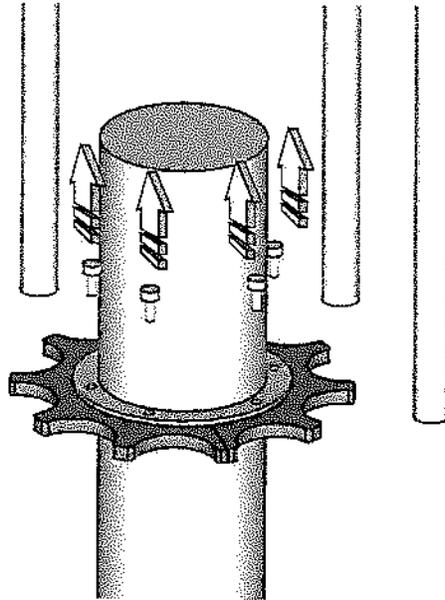

fig.32
- Loosen the 2 half-starwheels lock pins (fig.32).